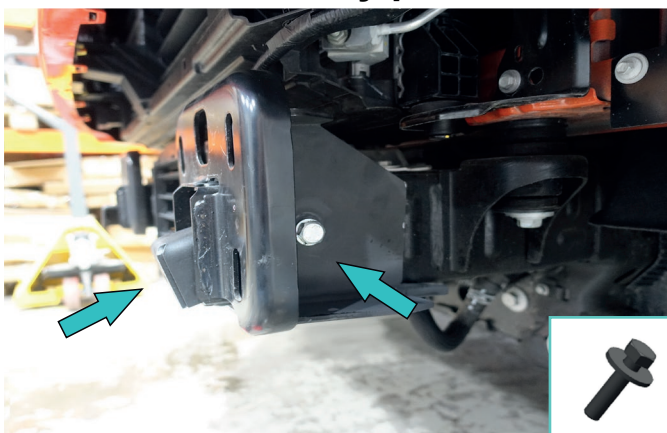

Fig.22
22. Install the reinforcing left bracket and additional left bracket (item 15, 13) on the left side of the vehicle using bolt M12x50 and washer 12 (item B, N) as shown in fig.22.